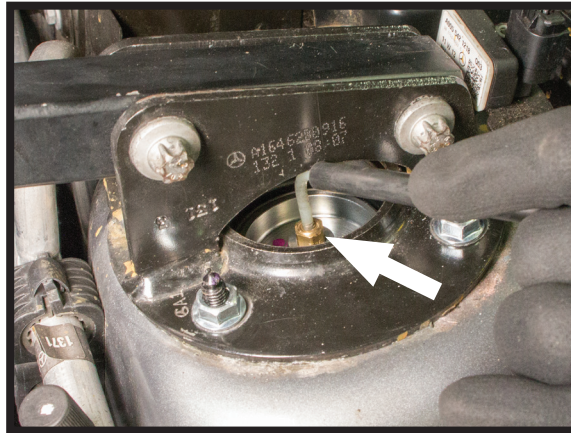

FIGURE 17
7. REMOVE THE PLASTIC SHIPPING PIN FROM THE AIR INLET FITTING, PUSH THE AIR HOSE IN UNTIL FULLY SEATED INTO PLACE (AIR LINE WILL NOT PULL OUT WHEN INSERTED PROPERLY). (FIGURE 17)